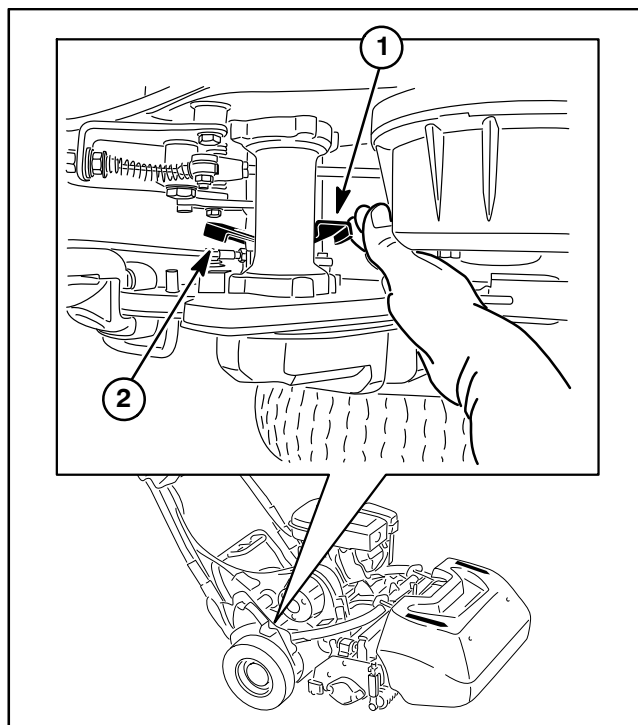
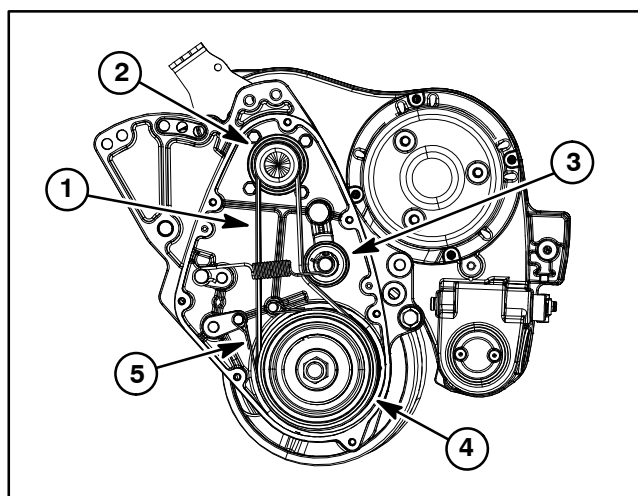

Figure 20
Figure 21
3. Rotate traction engage/disengage lever to the disengaged position to remove tension from the drum drive belt (Fig. 20) (see Disengaging Drum Drive From Transmission in the General Information section of this chapter).
4. Remove seven (7) washer head screws that secure the drum drive cover. Remove cover to expose the traction drive belt.
5. Remove and discard gasket (item 3) from between cover and housing.
6. Remove retaining ring (item 6) that secures brake band to brake clevis pin. Slide brake band from brake clevis and brake mount pins and remove band from drum drive housing.
7. Carefully remove one end of extension spring (item 9) from anchor point and rotate spring away from drive belt.
8. Pivot the idler pulley away from the drum drive belt to loosen belt tension (Fig. 21).
2. Place drum drive belt onto differential pulley and then fit belt to drive pulley. Make sure that belt is on rear side of idler pulley (Fig. 21).
3. Carefully install removed end of extension spring (item 9) to anchor point.
4. Install brake band over brake surface of differential pulley. Slide ends of brake band onto brake clevis and brake mount pins. Secure brake band to brake clevis pin with retaining ring (item 6).
5. Make sure that wave washer (item 4) is pressed into bore of drum drive cover.
6. Position new gasket (item 3) to housing surface.
8. Install seven (7) washer head screws to secure cover to housing. Tighten screws as follows:
9. Rotate traction engage/disengage lever to the engaged position to tension the drum drive belt (Fig. 20).